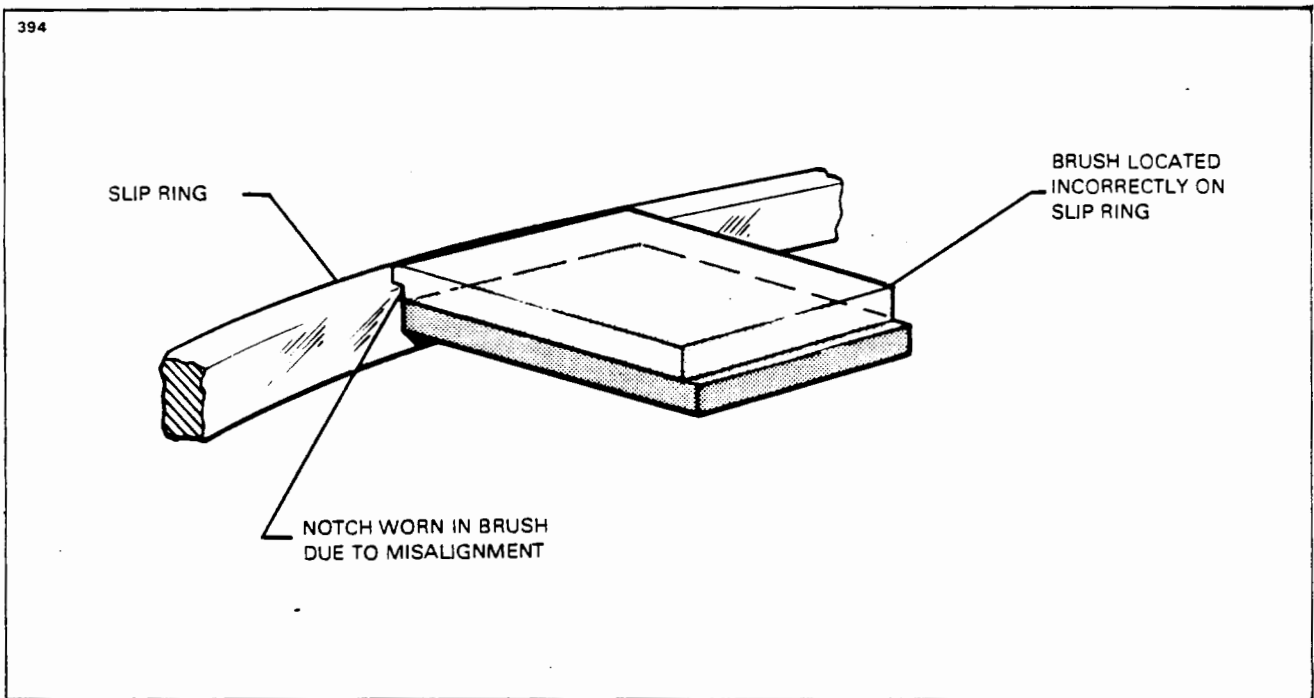

Figure 30-5. Centering of Brushes on Slip Rings
- A. Test that each brush rides fully on its slip ring over 360°. Figure 30-5 shows the wear pattern if this condition is not corrected. If alignment is off, shim where brush block is mounted to bracket or adjust mounting bracket support arm.